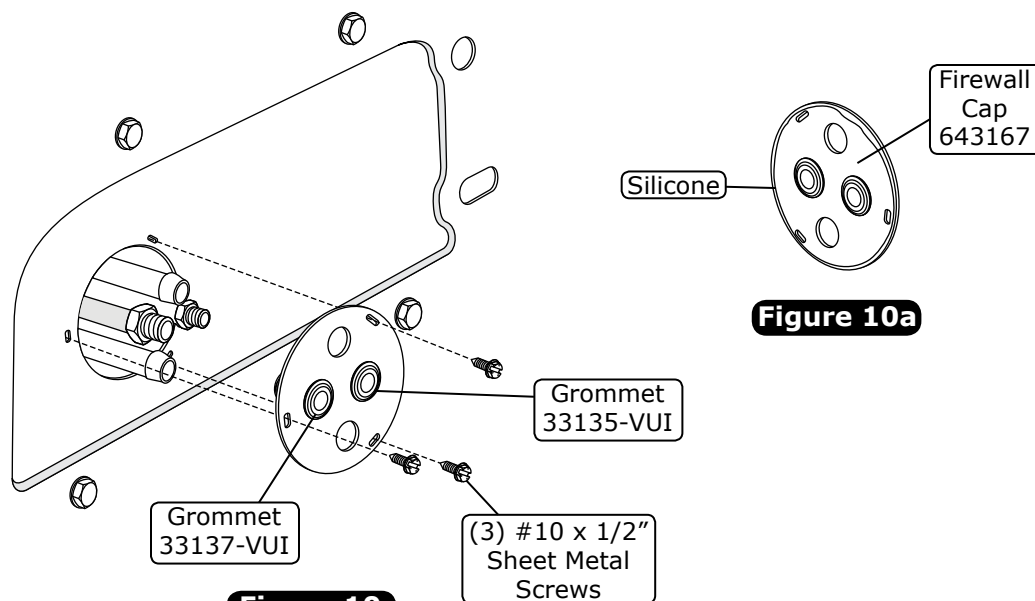

Figure 10
1. Install grommets onto the firewall cap as shown in Figure 10, below.
3. Pass the lines through the firewall cap, and secure the cap using (3) #10 x 1/2" sheet metal screws (See Figure 10, below).